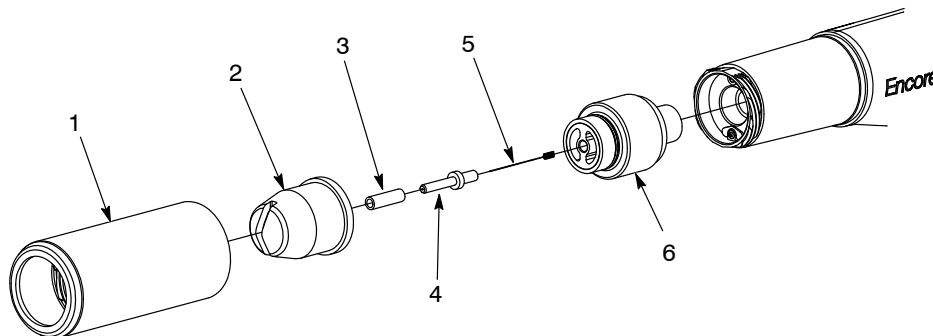

Figure 4-7 Cleaning Flat and Corner Spray Nozzles
1. See Figure 4-7. Unscrew the nozzle nut (1) counterclockwise.
2. Pull the nozzle nut and spray nozzle (2) off spray gun. Remove the nozzle from the nut and clean both with low-pressure compressed air and clean cloths. Replace if worn or damaged.
4. Inspect the wear sleeve (3), and electrode holder (4). If either is worn or damaged, replace them with the flat spray electrode holder kit.
- a. Unscrew the electrode holder and sleeve from the electrode support assembly (6).
- b. Install the new sleeve (3) over the new electrode holder (4).
- c. Install the electrode (5) in the new holder, then screw the holder into the electrode support assembly (6).
6. Install the nozzle (2) onto the electrode support, then screw the nozzle nut (1) onto the spray gun body clockwise until finger-tight.